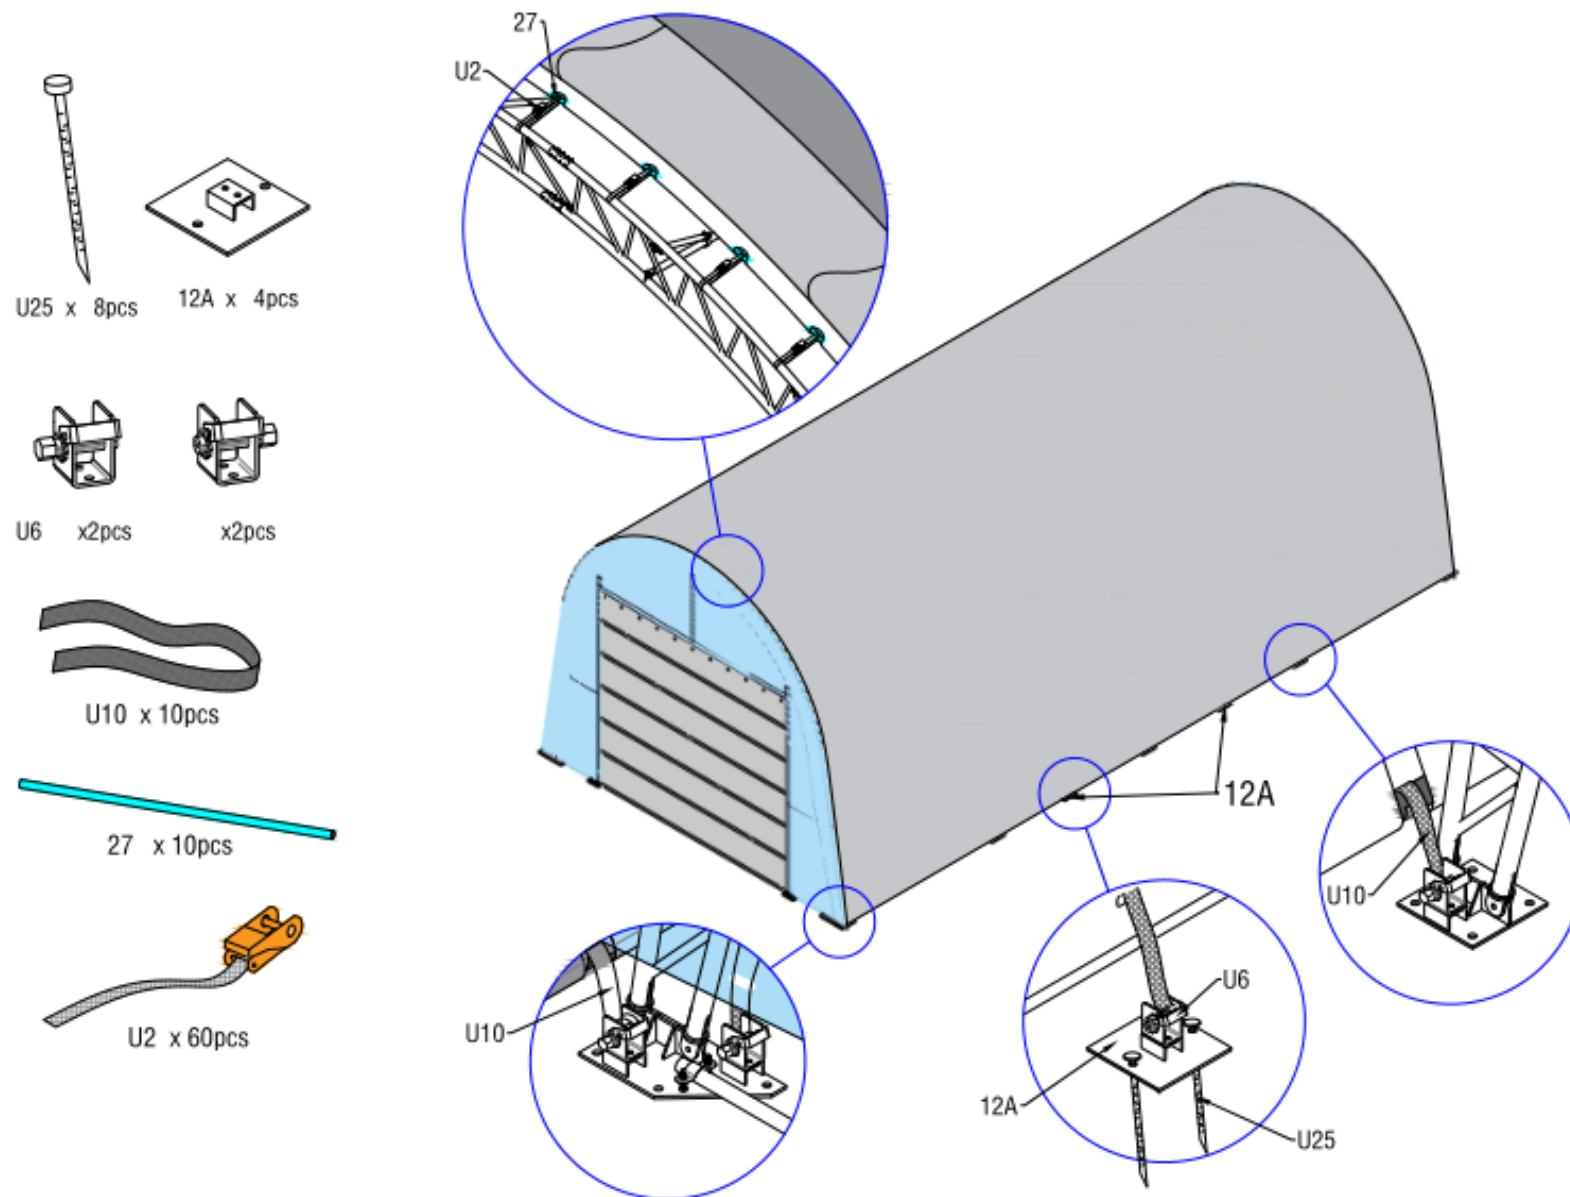

Figure 19
4. When you close the door, we can use the Lock steel wire for door (No. U27) and Lock steel wire for the wrench handle to fix. (Figure 19)